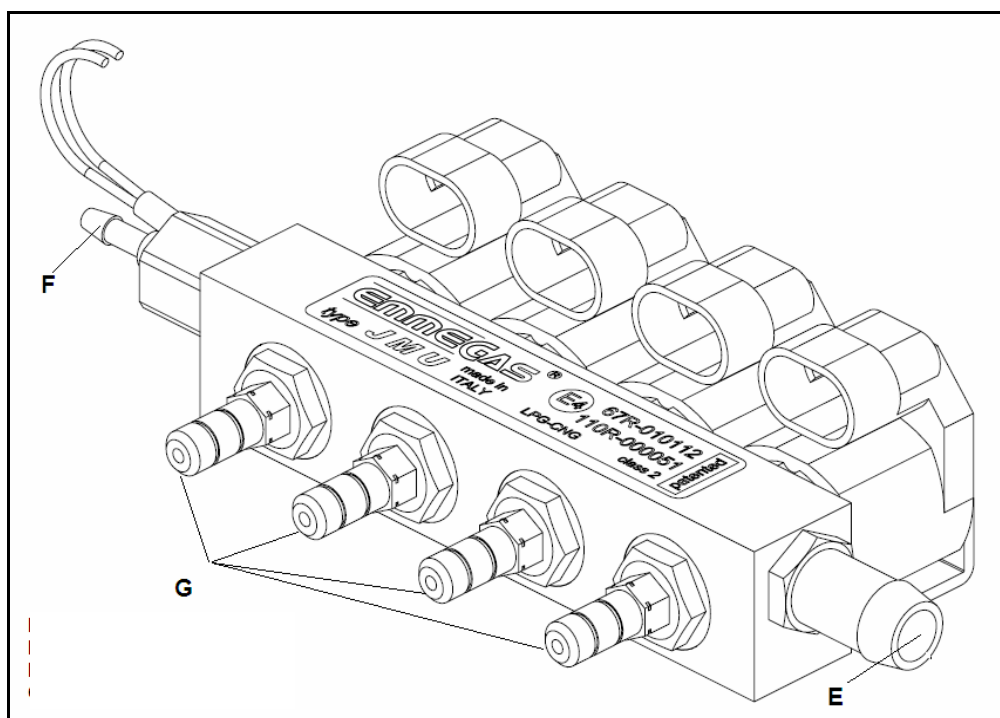

Fig.11: JMU injection Rail
- From the inlet gas side (position 'E') must be connected the **hose coming from the the filter** (\varnothing internal 12 mm); in the opposite side, where there is the pressure sensor (position 'F') it is necessary to connect the **compensation hose** (\varnothing 4 mm) to the Map Sensor (see Fig.11)